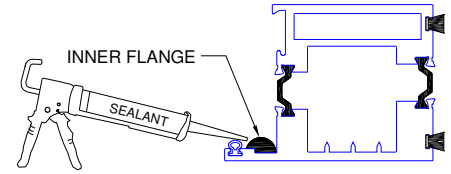

Figure 15:
2. Before glazing, apply a 1/4"×1/4"×6" bead of compatible sealant from each corner on inner flange of panel (Figure 15).
1. Apply a continuous 1/4"×1/4" bead of sealant before glazing. (Figure 15).